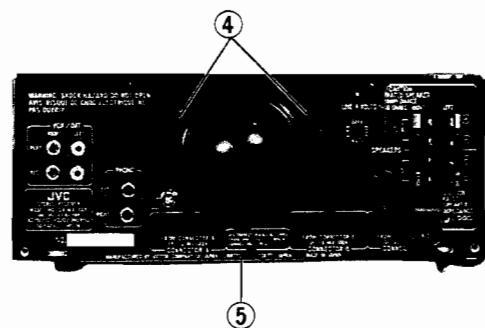

Fig. 2
3. Remove the screw ⑤ fastening the rear side. (Fig. 2)